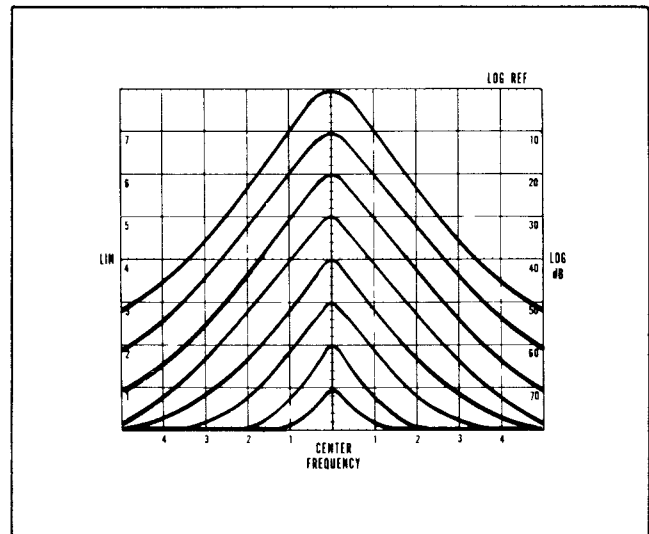

Figure 4-2. Vertical Gain Adjustment
g. Adjust the LOG REF LEVEL controls so the maximum signal amplitude is exactly on the -70 dB graticule line. (Reduce AMPL CAL signal level if necessary.) Rotate LOG REF LEVEL control seven steps in the clockwise direction. The amplitude of signal should increase in increments of one division per 10 dB step. See Figure 4-2.